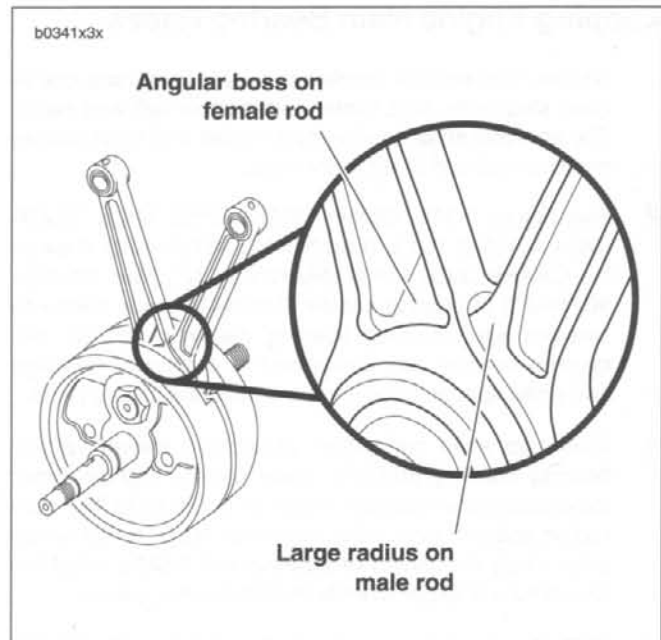

Figure 3-112. Installing Connecting Rods
5. See Figure 3-112. Slip bearings and connecting rods over crank pin. Assemble angular boss of the female rod adjacent to large radius side of the male rod as shown. The side of the male rod with the larger radius is narrower in the area where it fits between the forks of the female rod.